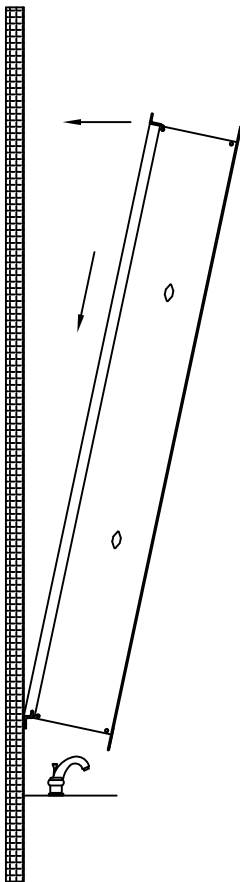

Fig 11
5. Place cabinet into wall bracket (Fig 11). Mark hole locations of z-clips (Fig 12). When determining location, it is recommended that at least one z-clip be located at a stud . Detach cabinet and drill 8mm hole if needed for anchor, and place in anchor in hole.